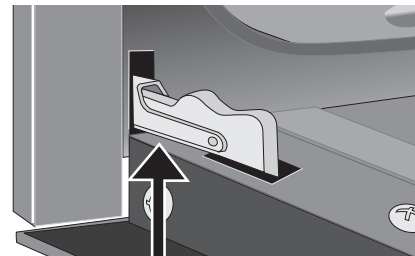
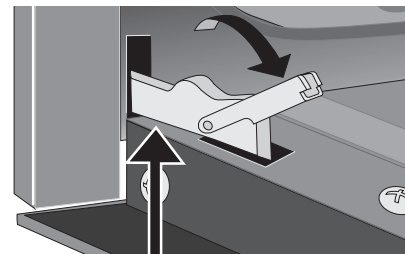

Figure 40: Door hinge locked
Figure 41: Unlocking door hinge
2. Pull up the lock located on each hinge support toward front of the oven until the lock stops. You may have to apply a little upward pressure on the lock to pull it up (Figure 40 and Figure 41).
4. Push the door hinge locks up toward and into the oven frame on both left and right oven door hinges to the locked position (Figure 40).